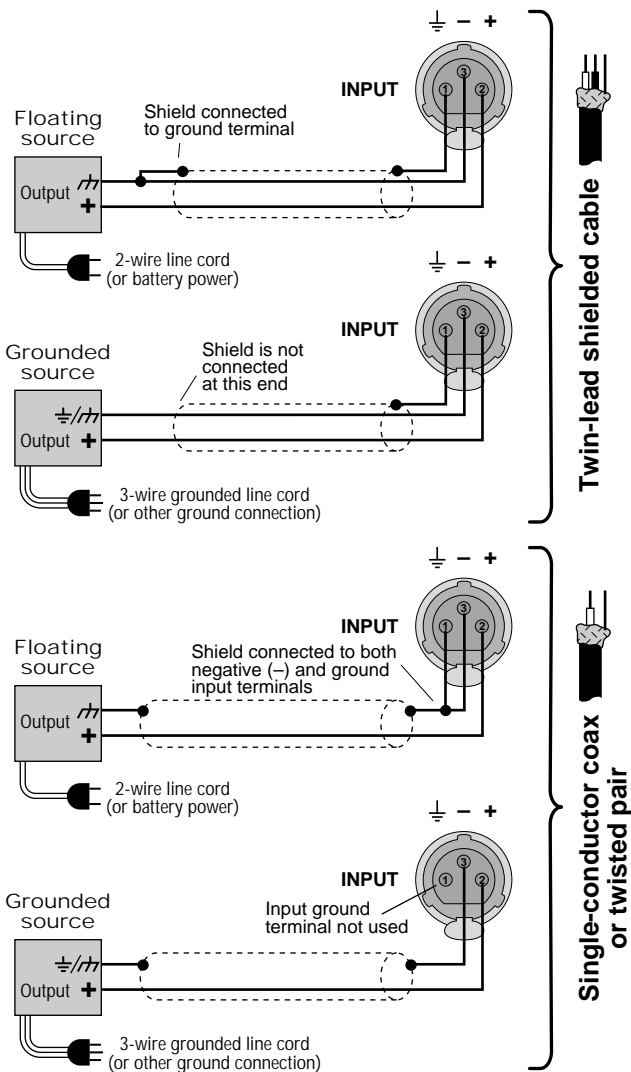
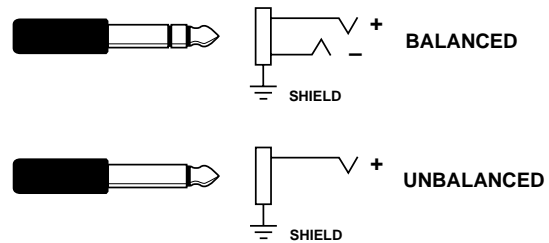

Fig. 3.7 Unbalanced Input Wiring for the Optional *MT-XLR*
Fig. 3.9 Balanced and Unbalanced Phone Plug Wiring
The balanced phone jack inputs have a nominal impedance of 20 K ohms (10 K ohms with unbalanced wiring) and will accept the line-level output of most devices. Three-pin female XLR connectors are also available on the optional *MT-XLR* accessory and balanced barrier block connectors are available on the optional *MT-BB* accessory (see Section 8.2). Correct input wiring will depend on two factors: (1) whether the input signals are balanced or unbalanced, and (2) whether the signal source floats or has a ground reference. Figures 3.7 and 3.8 provide examples of recommended connection techniques for each type of signal source. The optional *MT-XLR* connector is shown.
The amplifier's built-in 1/4-inch input phone connectors can be wired similarly for balanced or unbalanced, floating or ground-referenced sources. The phone connectors have a standard tip-ring-sleeve (TRS) configuration: the tip is positive (+), ring is negative (-) and sleeve is ground (see Figure 3.9). Wiring for different sources follows the XLR wiring guidelines shown in Figures 3.7 and 3.8.